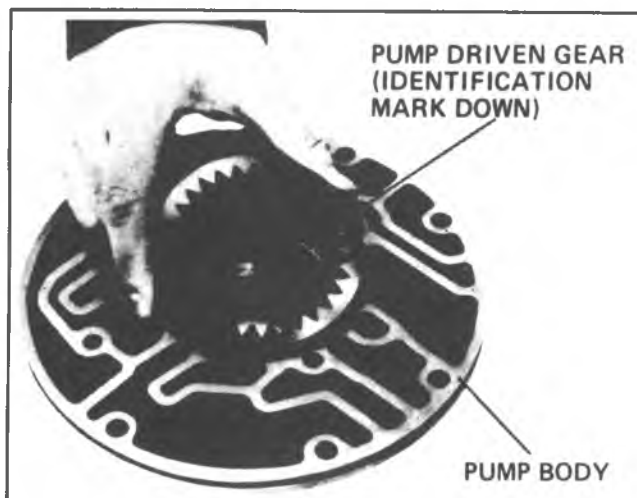

Fig. 7A-132A—Installing Pump Driven Gear
11. Install driven pump gear with identification mark down against gear pocket of pump body (Figs. 7A-132A and 7A-133A).